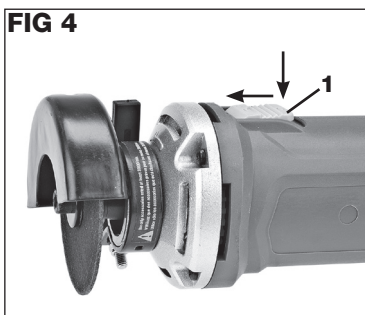

FIG 4
STARTING AND STOPPING THE TOOL (FIG 4)
1. Press downward on the rear part of the switch (1) with your thumb.
2. While pressing the rear part of the switch, slide the switch forward to start the tool. See figure 4.